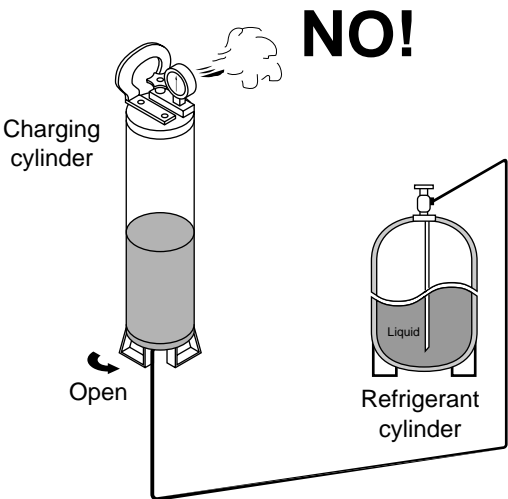

Fig. 6
- **To prevent the composition of R407C from changing, never bleed the refrigerant gas into the atmosphere while transferring the refrigerant. (Fig. 6)**